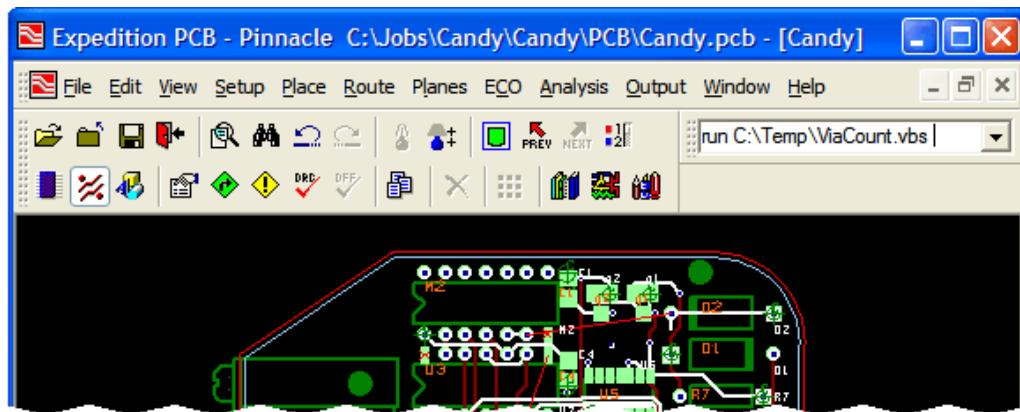

Figure 3-6. The Keyin Command Field.
- 4) Enter the string *run C:\Temp\ViaCount.vbs* into the **Keyin Command** field, which is located toward the upper-right-hand corner of the interface (Figure 3-6).